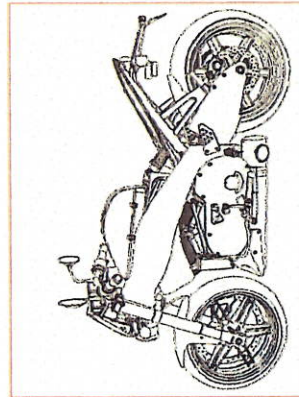

Figure 2
1. Remove seat and tank shell. (Figure 2)